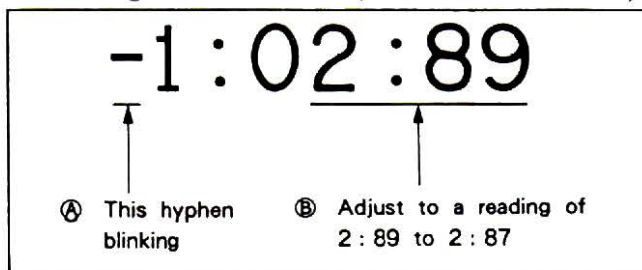

Fig. 8-4.
- 2) Short-circuit TP001 and TP002 on the KB-6 board once and confirm that the "-" on the display blinks (Fig. 8-4 A).
- 4) Adjust RV101 so that the LCD counter reading is within "- 1 : 02 : 89" and "- 1 : 02 : 87" (Fig. 8-4 B).
- 5) Remove the jumper wire between Pins ① and ② of CN017 and short-circuit TP001 and TP002 on the KB-6 board four times to set the LCD counter reading to "0 : 00 : 00" (TEST mode cancelled).